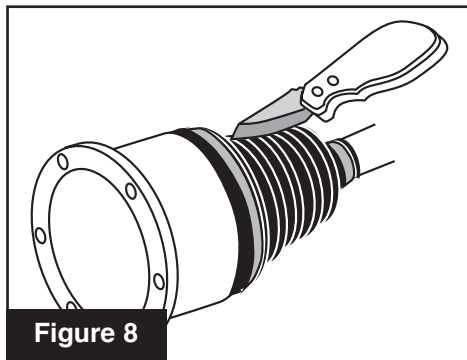

Figure 8
8. Cut off old CV boot, **DO NOT REMOVE THICK RUBBER BUSHING**. Remove old clamps (**Figure 8**).